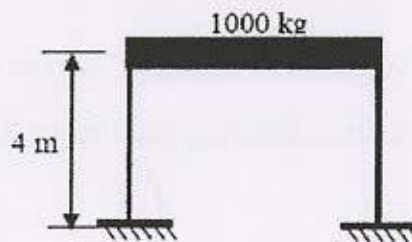

Fig. 1
- b)** The building frame shown in the Fig.1 is given a 100 mm lateral displacement and released from the rest to vibrate freely. Find the logarithmic decrement and displacement of the system after 12 cycles and comments on the result. Consider 10% damping. Take $EI_{\text{column}} = 1.1 \times 10^{12} \text{Nmm}$. [9]